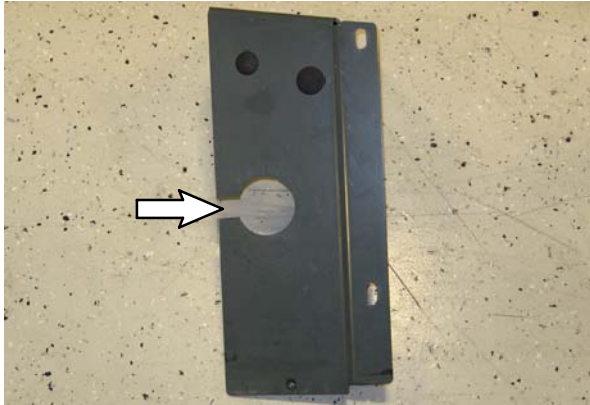

FIG. 17
66. Cut approximately 1" from the mounting bracket. Refer to Fig. 17.